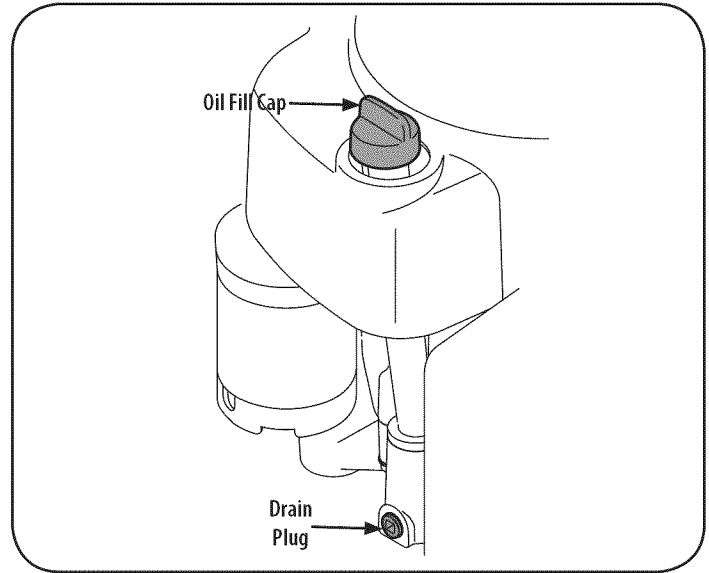

Figure 13
2. Remove drain plug and allow oil to drain into a suitable container. See Figure 13.
1. Wipe around dipstick cap and tube with a clean cloth to remove any debris. Refer to Figure 13 on previous page.